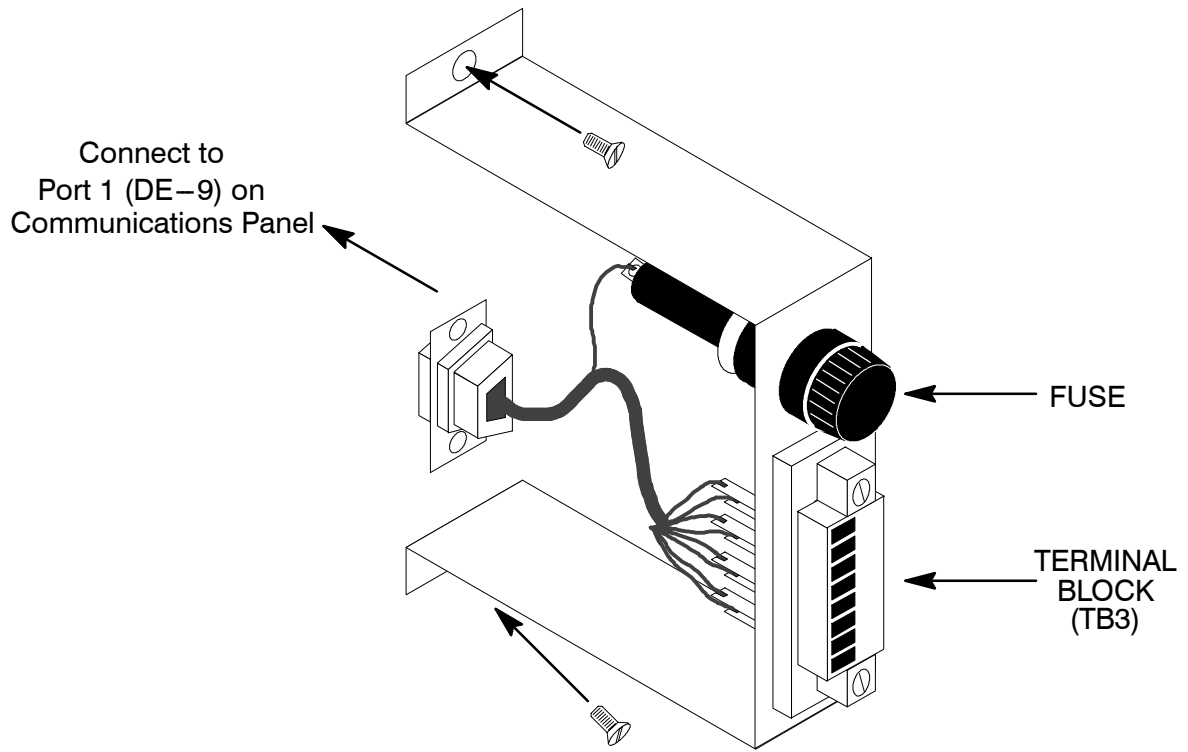

Figure 27. Terminal Block Bracket
3. In the spare parts kit locate the RMP Adapter Cable assembly (see Figure 27). Mate the DE-9 connector on the back of the terminal block into the DE-9 connector on the Communications Panel of the UPS (see Figure 28). Use two screws from the spare parts kit to secure the terminal block plate to the Communications Panel.